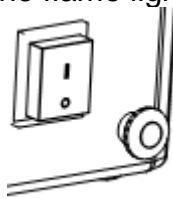

Figure.3
- l. Regulate the flame and output by turning the adjustable knob anticlockwise to increase or clockwise to decrease. (Figure 3).